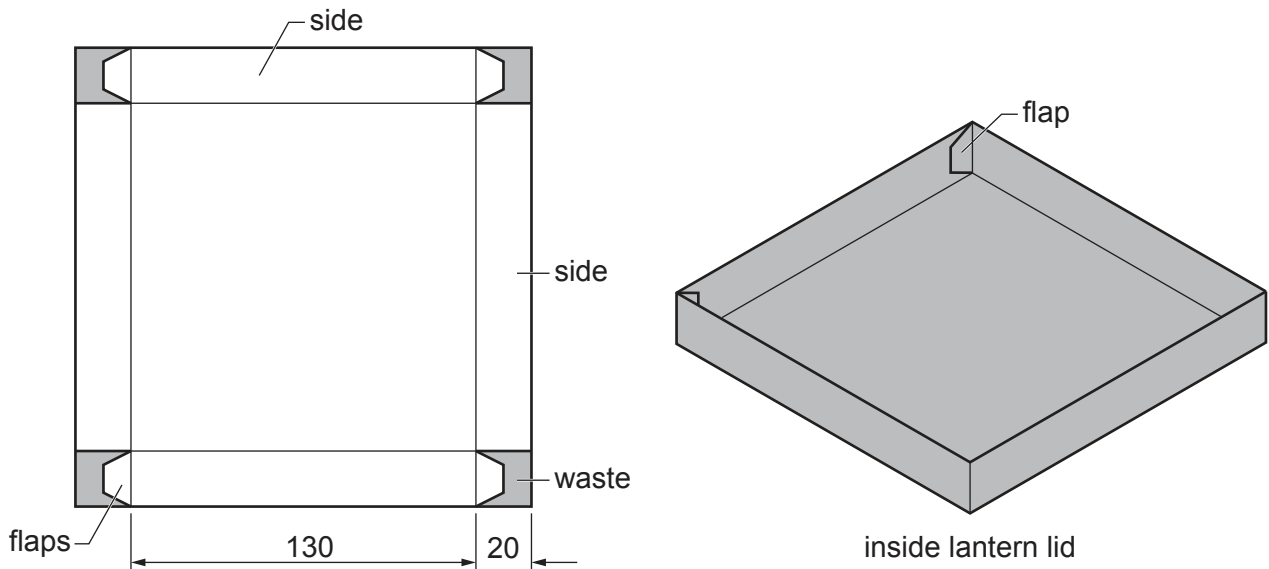

Fig. 11.2
- (c) Fig. 11.2 shows the development (net) of the lantern lid marked out on mild steel sheet. An additional view shows inside the lantern lid when the flaps have been bent and joined permanently to the sides.